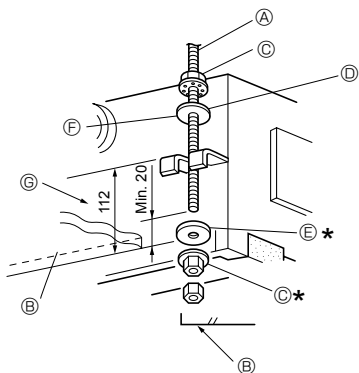
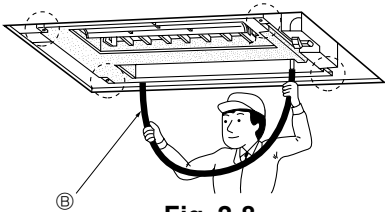

Fig. 2-7
Fig. 2-8
1. Thread washers ① ② (supplied) and their nuts (procured locally) onto the suspension bolt in advance. (Fig. 2-7)
- \* Do this in the following order (from the top): nut, insulated washer ②, washer without insulation ①, 2 nuts.
- \* Position insulated washer ② with the insulated surface pointing down, as in the figure.
2. Lift the unit into place, aligned properly with the suspension bolt. Pass the bracket between washers ① and ②, which are already in place, and secure it. Do the same in all four places.
- ① Suspension bolt (3/8" or M10)      ⑤ Washer ①
② Ceiling surface      ⑥ (Install with insulation facing down)
③ Nut (3/8" or M10)      ⑦ Measurement to upper face of bracket
④ Washer ② (with insulation)
4. Check that the four corners are all level, using a spirit level or clear plastic tubing with water in it. (Fig. 2-8)